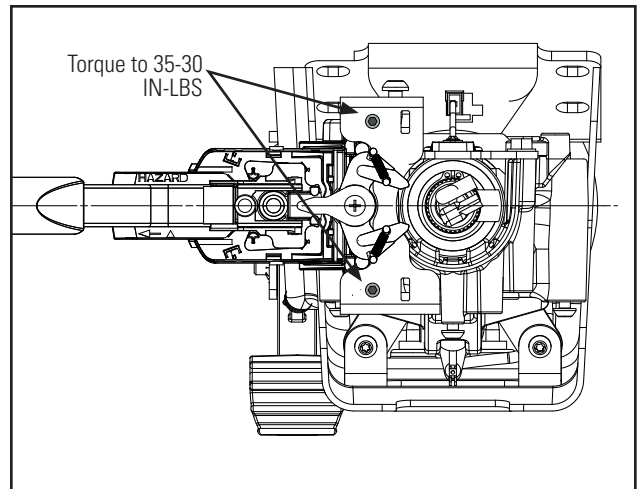

FIGURE 4
6. Using a 5/32" Allen driver/wrench, remove the (2) screws shown, and remove the turn signal switch. See Figure 4.
8. Re-use the turn signal switch, and install it on the new steering column assembly, re-using the (2) Allen screws from #6 above. Pull outward on the switch, while tightening the screws to 30-35 in-lbs. See Figure 4.